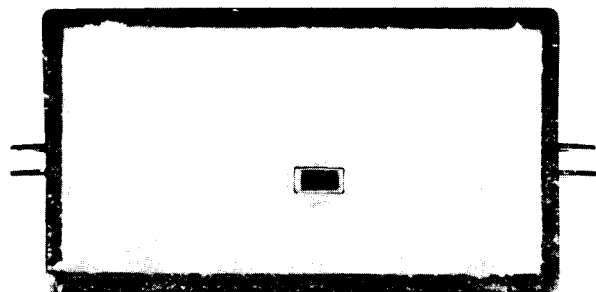

Figure 2-2. Antenna AN/C-25 (30,000 - 40,000 Mc)
f. Place the insert with the slotted end toward toward the detector and with the larger of the two slots oriented toward the TNC connector side. Using the plain wooden tool, push the insert into the wave guide until the thin tapered edge is flush with the junction of wave guide and horn. See figure 2-2.